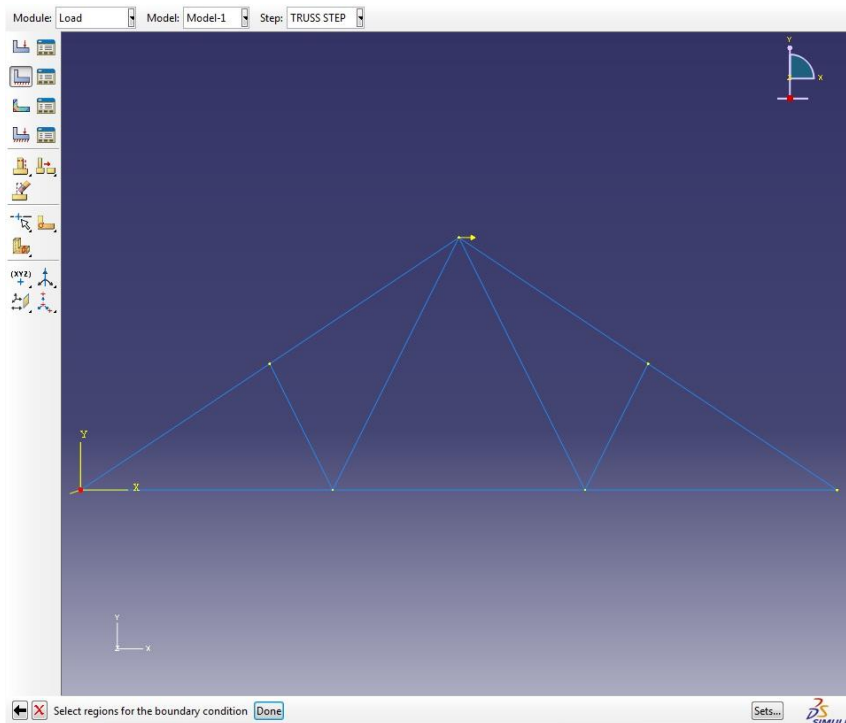

Figure 27. Boundary Condition (Roller)
- All of the available nodes on which the boundary condition can be applied will turn the color yellow. Using the cursor, click bottom left node of the structure. If this selection is done correctly, then the node color will turn from yellow to red (Figure 27).